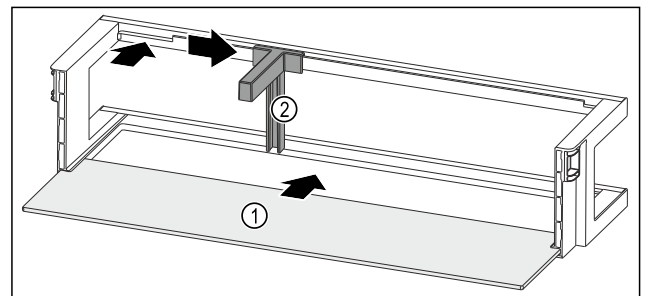

Fig. 206 Door rack with shelf
- ▶ Push the shelf Fig. 206 (1) into the side recesses.
- ▶ Insert the bottle holder Fig. 206 (2) in the recess.
- ▶ Push the bottle holder Fig. 206 (2) to the desired position to the side.